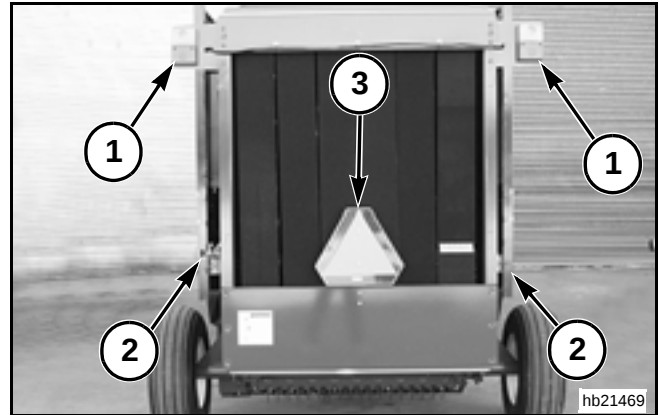

FIG. 28
FIG. 28: The baler is equipped with a lighting and reflector system. The lighting system includes the lighting wiring harness, seven pin SAE connector and the warning lamps (1). The reflector system includes yellow front reflectors, red rear reflectors (2) and the SMV (slow moving vehicle) emblem (3) mounted on the back of the tailgate.